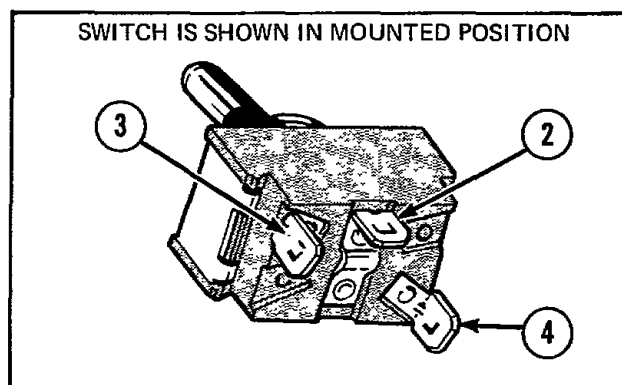

Figure 54
51. **WASH TEMPERATURE SWITCH** (Refer to Figure 54)